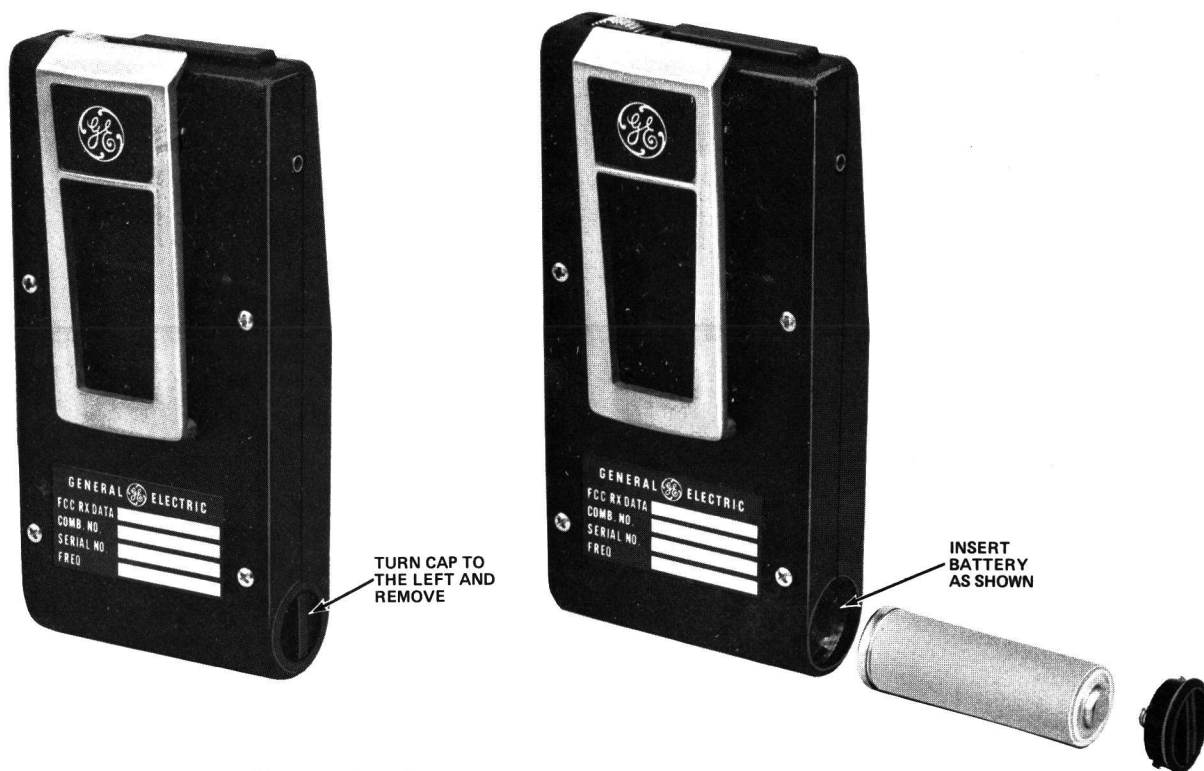

Figure 2 - Battery Replacement
2. Turn the cap to the left as far as it will go and remove (see Figure 2).